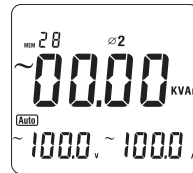

Figure 18
- Then press **SELECT** again to choose the second phase $\varnothing 2$, see figure 18.